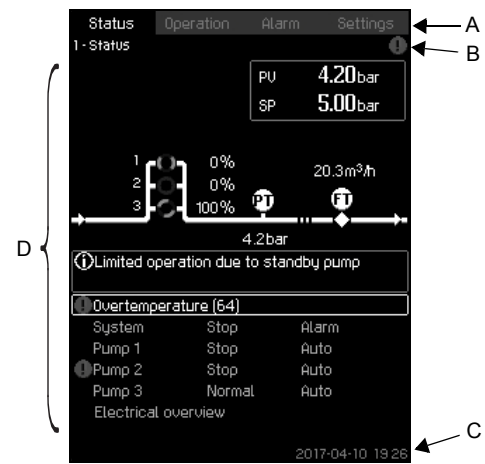

Fig. 12 Display design
The menu line (A) is illustrated in fig. 12.
The top line (B) is illustrated in fig. 12. It shows the following: